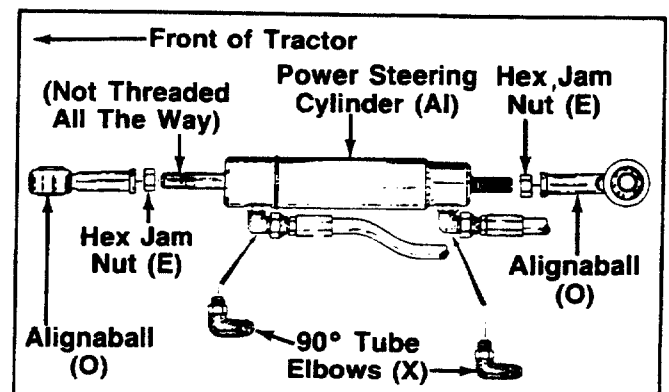
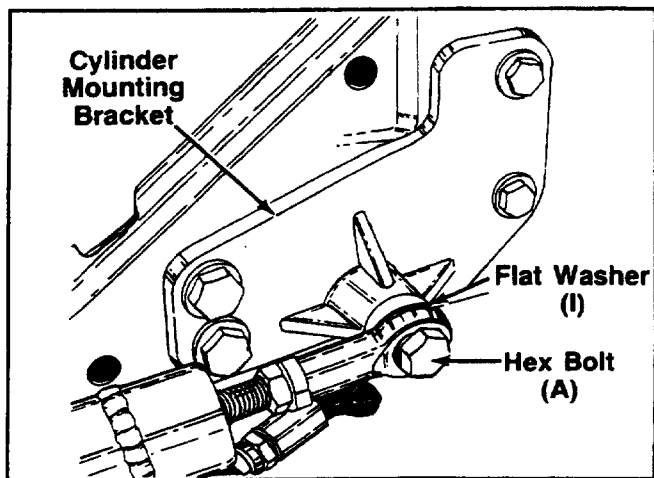

FIGURE 29.
FIGURE 30.
30. Assemble two 90° tube elbows (male/female) fittings (X) to the power steering cylinder (AI) in the positions shown in figure 29.
31. Thread the two hex jam nuts (E), onto the steering cylinder ends. Thread the alignaball end (O) onto the rear end of the steering cylinder with 5/8 inch of thread into the alignaball in the position shown in figure 29. Tighten the hex jam nut to the alignaball.
32. Thread the remaining alignaball end (O) to the front end of steering cylinder. Do not tighten the hex jam nut at this time.
34. Assemble the rear end of the steering cylinder to the cylinder mounting bracket with the cylinder mounting bolt (A) and flat washer (I) as shown in figure 30.
36. Attach the steering hose assembly (AC) (10.5" long) to the 90° fitting on the front of the steering cylinder, making sure not to pinch the hose closed. See figure 29.
37. Attach the steering hose assembly (AD) (8.9" long) to the 90° fitting on the rear of the steering cylinder, making sure not to pinch the hose closed. See figure 29.